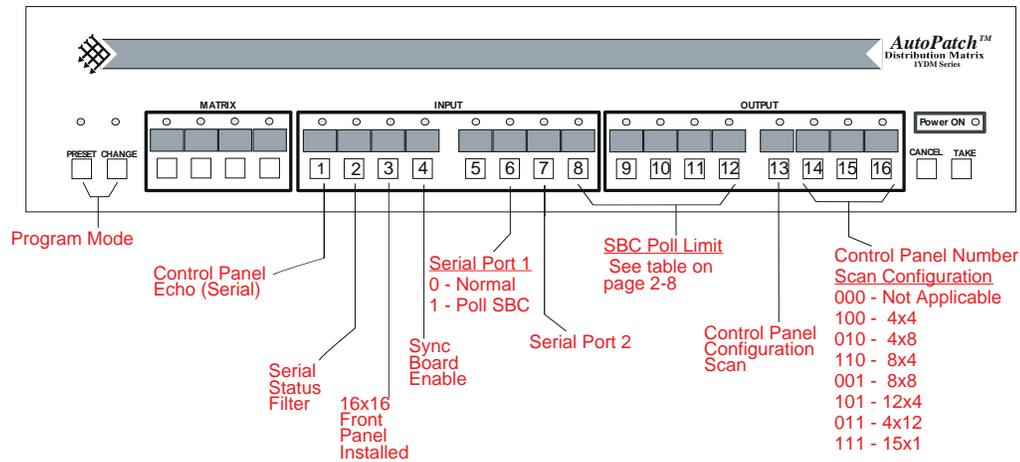

figure 2.3 Bits for the adjustable features of the 1Y
To set any of the features in the configuration word, place the distribution matrix in program mode by holding down <Change> and pressing <Preset>. Both the change and preset LED's illuminate. Once in program mode, use the 8 Input and 8 Output keys to set the features of the configuration word. To exit program mode, press <Cancel>. Figure 2.3 shows the function of each of the input/output keys in the configuration word.
The configuration word settings are represented in binary form by the LED's above the input and output keys. Each feature of the configuration word can be set by turning one or more bits (input or output keys) on or off. If a bit is on, its LED is illuminated; if a bit is off, its LED is off. Some features, such as setting the SBC polling range or the control panel number scan configuration, require setting multiple bits. For example, if figure 2.3 were to show that the SBC Poll Limit was set to 10, bits 8-12 would be set as 10010 (bit 8 on (1), bit 9 off (0), bit 10 off (0), bit 11 on (1), bit 12 off (0)).